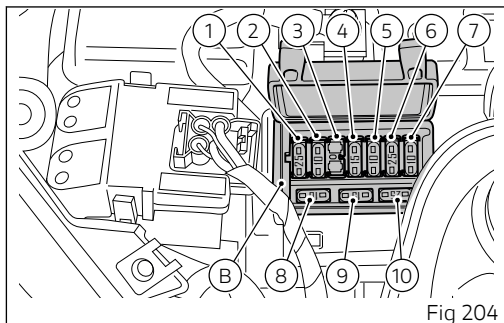

Fig 204
The main fuse (C) is located on the right side of the fuse box (B Fig 204), on solenoid starter (D). To reach it, it is necessary to remove the tank cover as described in chapter "Charging the battery" and the protection cap (E). A blown fuse can be identified by breakage of the inner filament (F).